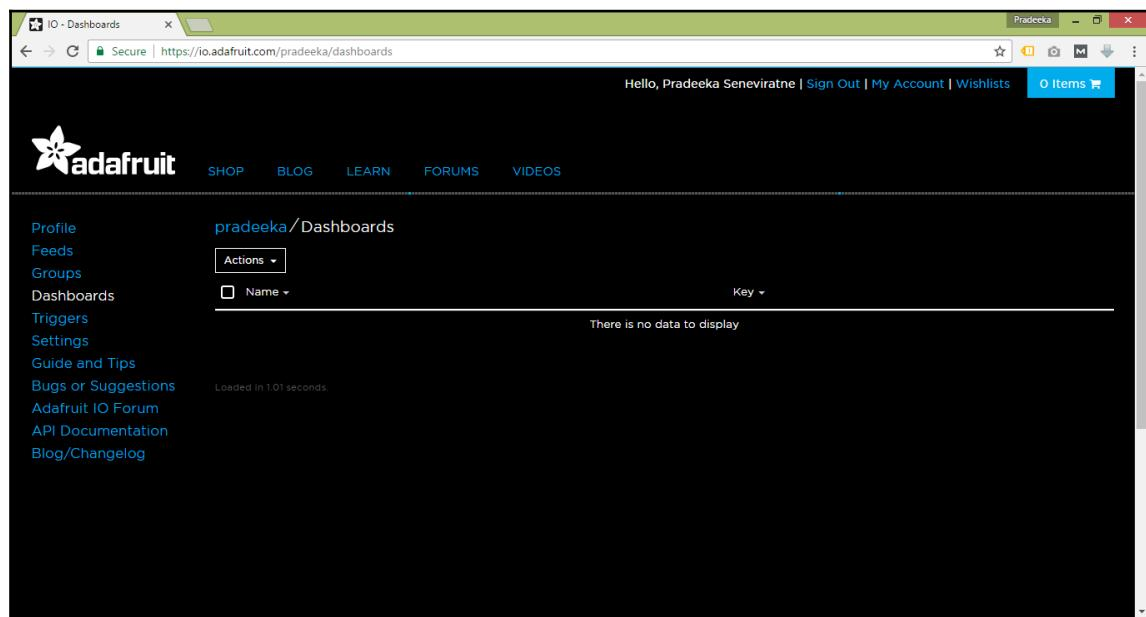

Figure 4-9: Dashboards page
1. In the left navigation bar, click on the **Dashboards** menu. This will bring you to the **Dashboards** page located at the (username)/dashboards path, as shown in Figure 4-9: